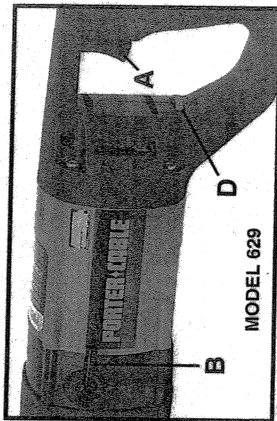

Fig. 2B
MODEL 629 is equipped with a six-speed, speed control that is operated by rotating the knob (D) Fig. 2B. The knob is numbered "1" through "6", with "1" producing the slowest speed (approximately 1600 SPM), and "6" producing the fastest speed (approximately 2600 SPM). The knob (speed) may be adjusted with or without the motor running.